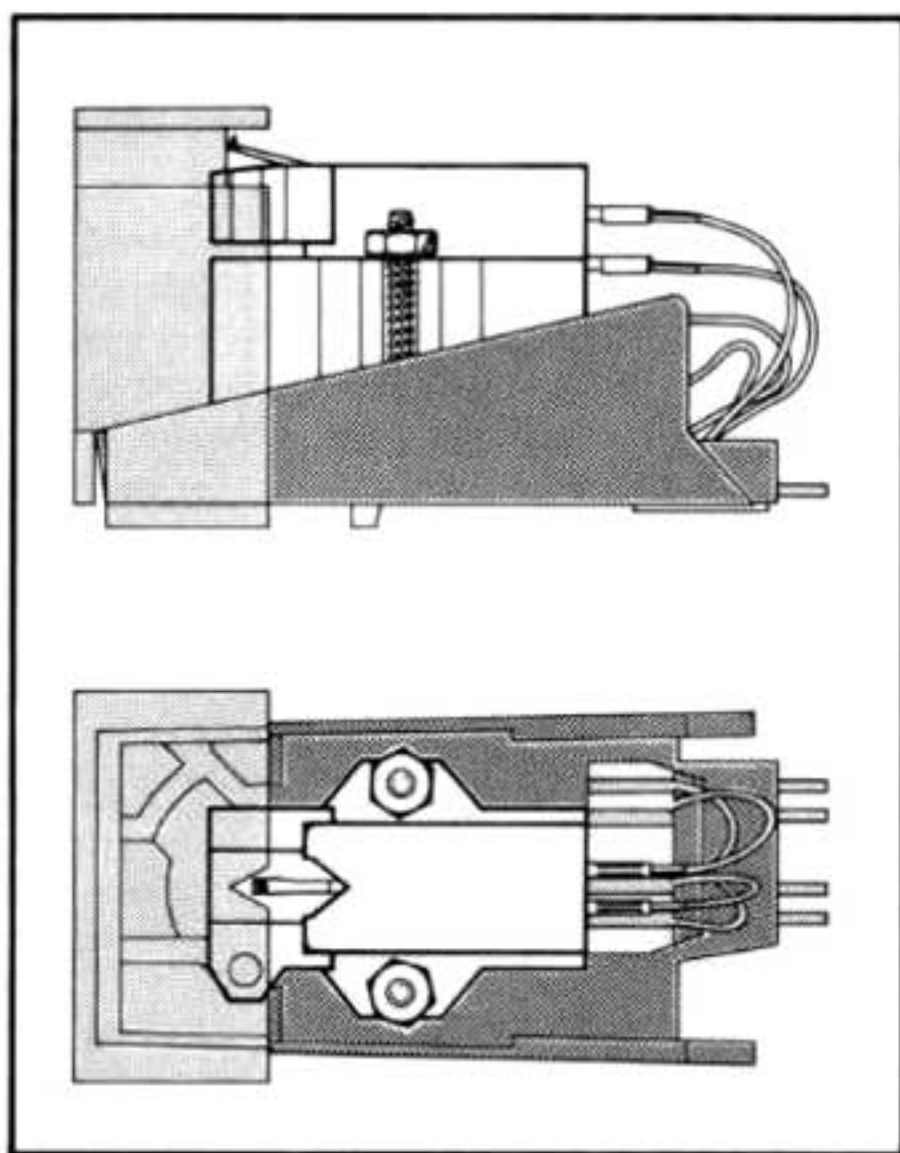

Fig. 12
2. Fasten the cartridge with the help of the accessories supplied with the cartridge holder Dual TK 14 and the cartridge. Be sure it is located correctly (Fig. 12).